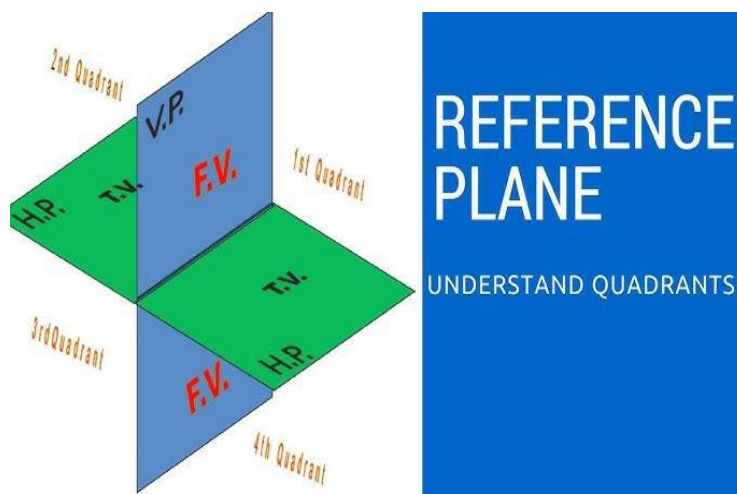

Figure 3.2.18: Plane of projection
Orthographic projections are mainly obtained on two principal planes namely, Vertical plane (VP) and Horizontal plane (HP). These principal planes are perpendicular to each other, and they divide the space into four quadrants (figure 3.2.18). They are called angles and are classified as: